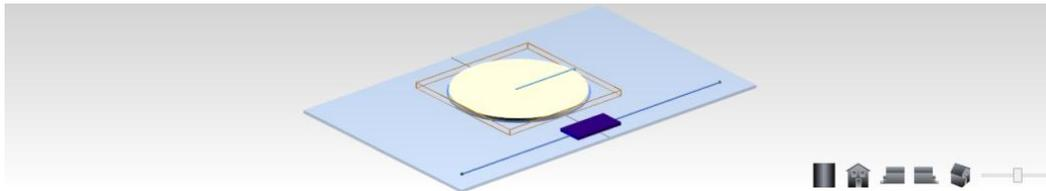

Figure 34
- You can see that a 20' diameter turntable has been placed on center line of the stage and a little bit upstage of the *Pushstick* wagon (Figure 34).